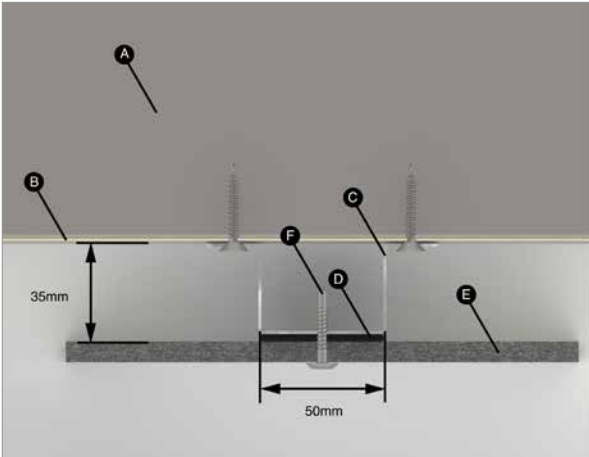

FIGURE 13.
Genesis Façade Gasket Tape is also applied to the Genesis Intermediate Top Hat to assist with movement and minimize any vibration in the panels (see Figure 13).
- If the small cut outs are no wider than 150mm, they can be mounted with one rivet fixing in the middle of the board width (see Figure 13).